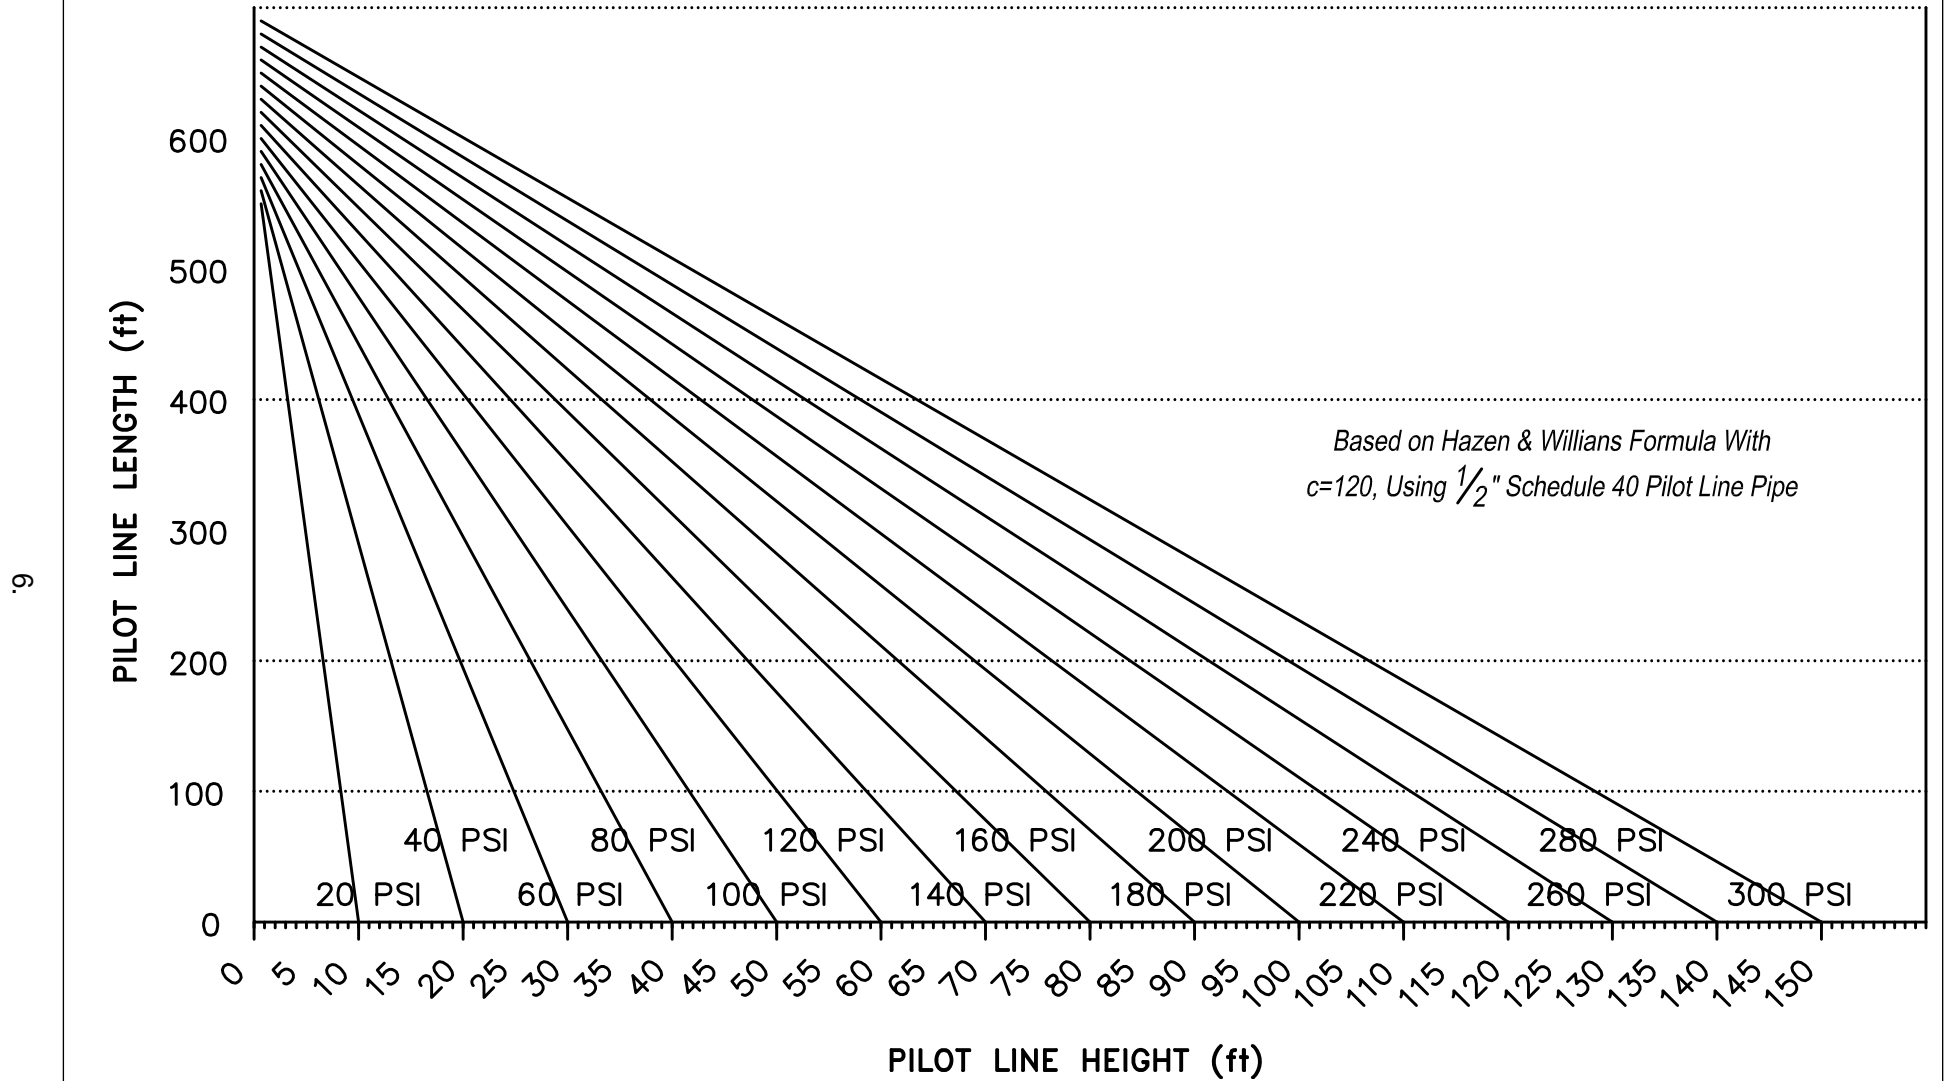

Fig. 2
- c. Maximum wet pilot line length and height must comply with data provided in Fig. 2.